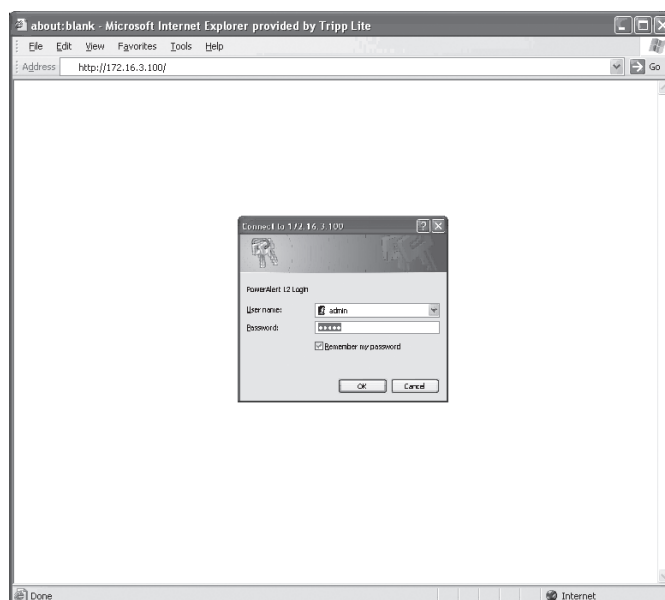

Figure 3-1: Web Console Login
3. You should be prompted for a user name and password (Figure 3-1). The default administrator user name is **admin** and the default password is **admin**.